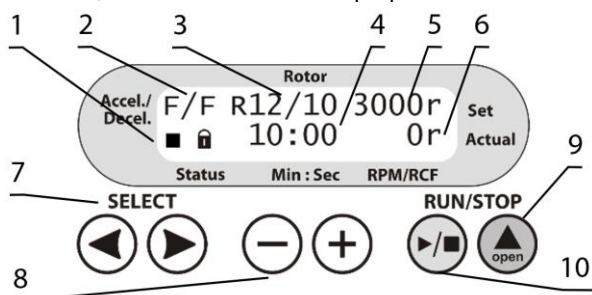

Figure 3. LMC-56 control panel.
- Check the power cable for any signs of damage. Connect the power cable to a properly grounded mains socket. Set the power switch on the unit to position **I** (on). Press the **▲ Open** key (fig. 3/9) and lift the lid by hand.
- Acceleration and deceleration modes (fig. 3/2);
- Set rotor speed in RPM or RCF¹ (fig. 3/6);
- Status icons of rotor, ■ stopped or ► running (fig. 3/1, first symbol);
- Status icons of lid, ■ closed or ▣ open (fig. 3/1, second symbol);
- Set time of centrifugation, in minutes and seconds (fig. 3/4);
- Actual rotor speed, in RPM or RCF (fig. 3/6).
- 5.4 Press the **▲ Open** key (fig. 3/9) and lift the lid by hand. Check the rotor, buckets for any signs of wear or corrosion, and replace if necessary. Insert EVEN number of tubes/microtest plates in rotor one opposite another. The loading in the opposite tubes must be equal.
- 5.5 **Setting parameters.** Use the **SELECT ◀** and **▶** keys (fig. 3/7) to choose a parameter and the **–** and **+** keys (fig. 3/8) to modify it. Selected parameter will be blinking. Program automatically saves any changes made after no keys are pressed for 2 seconds.
- 5.5.1 Acceleration modes (fig. 3/2, first letter). Three modes of acceleration are available, slow (shortened to **S**), normal (**N**) and fast (**F**).
- 5.5.2 Deceleration modes (fig. 3/2, second letter). Four modes of deceleration are available, free brake (**0**), slow (**S**), normal (**N**) and fast (**F**).
- 5.5.3 Installed rotor (fig. 3/3). Combinations of rotors, adapters and their maximum allowed speed is listed below in the table below:
- 5.5.4 Rotation parameters (fig. 3/5). Rotor speed can be set in RPM and in RCF, denoted after numeric value by **r** and **g**, accordingly. Values convert after changing units. RCF depends on the installed rotor, as shown in Table 1.
- 5.5.5 Time setting (fig. 3/4). Select duration of centrifugation in minutes, step 1 minute.
5.6 Close the lid carefully and smoothly until a clicking sound is heard. Icon  appears on the display (fig. 3/1).
5.7 Press the **RUN/STOP** / key (fig. 3/10) to start centrifugation. Icon  (fig. 3/1) and actual speed (fig. 3/6) are shown in the lower line of the display. The timer (fig. 3/4) starts the countdown after set speed is achieved.